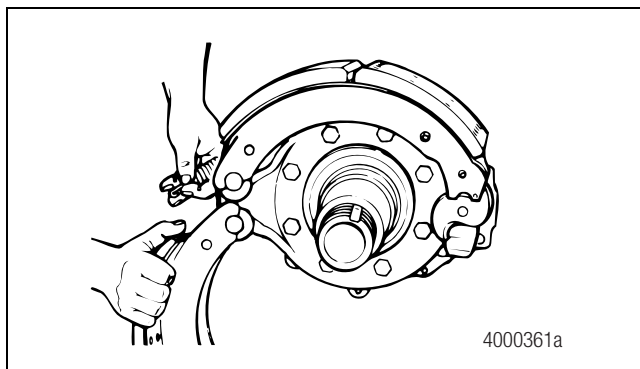

Figure 5.24
2. Place the upper brake shoe into position on the top anchor pin. Hold the lower brake shoe on the bottom anchor pin. Install two new brake shoe retaining springs. Figure 5.24.